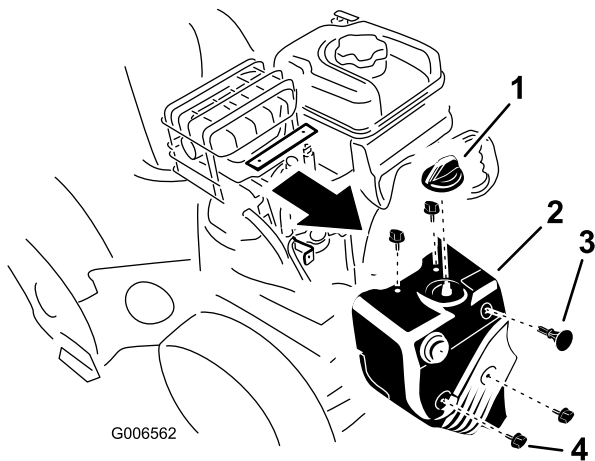

Figure 43
1. Remove the choke knob and the ignition key (Figure 43).
2. Remove the 4 screws that secure the snow hood to the snowthrower (Figure 43).